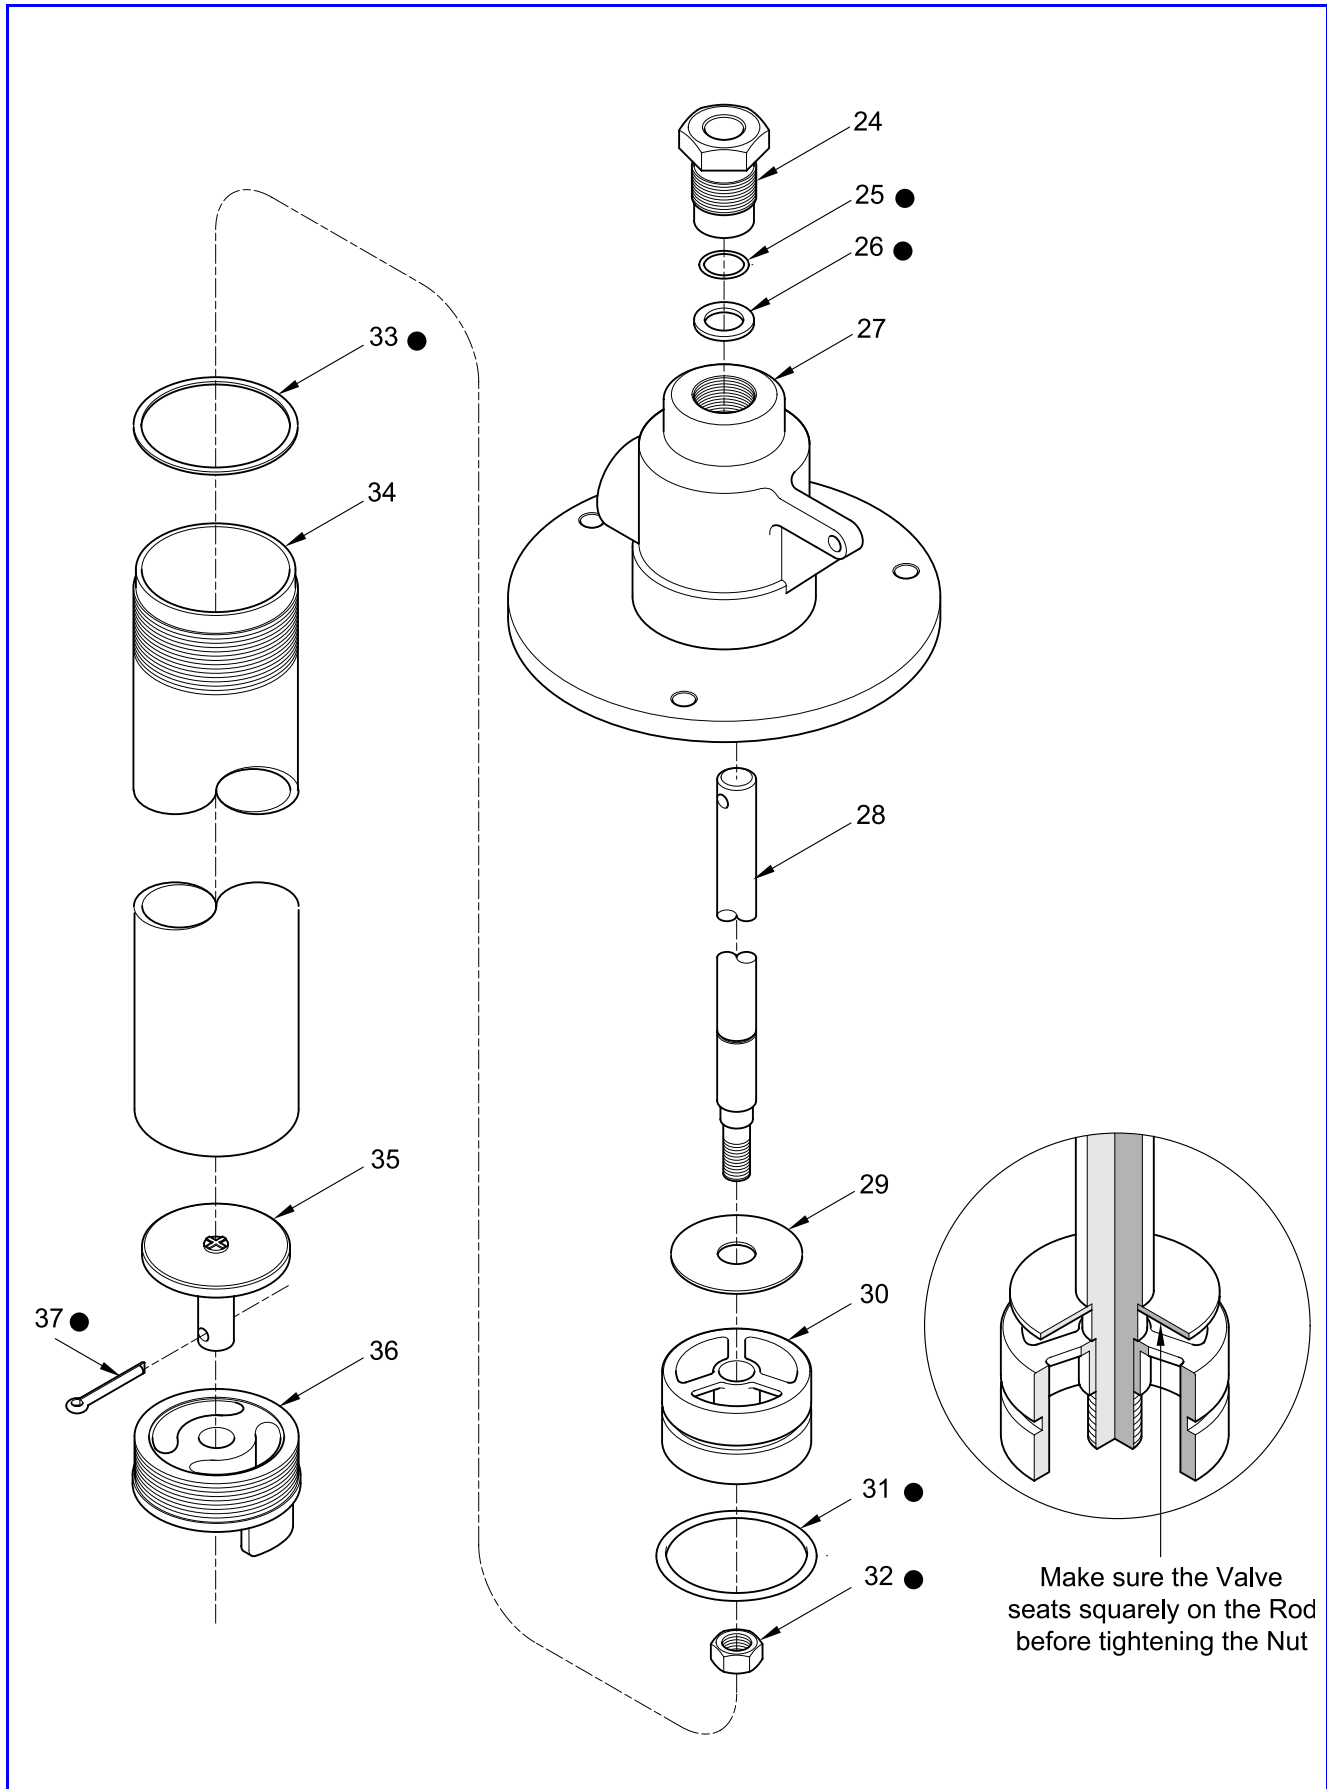

Figure 3 Pump Tube Assembly for Model 7530 Series - Exploded View
NOTE: Refer to **Figure 3** for component identification on the pump tube procedures.
Make sure Valve (29) seats properly on Rod (28). Damage to components can occur. See Figure 3.
5. Screw Nut (32) onto the Rod.
6. Install O-Ring (31) onto the Plunger Body.
7. Install and seat Gasket (33) into the bottom of Outlet Body (27).
9. Install and seat Gasket (26) into the Outlet Body.
10. Install O-Ring (25) carefully past the cross-hole on the Rod.
11. Screw Packing Nut (24) into the Outlet Body.